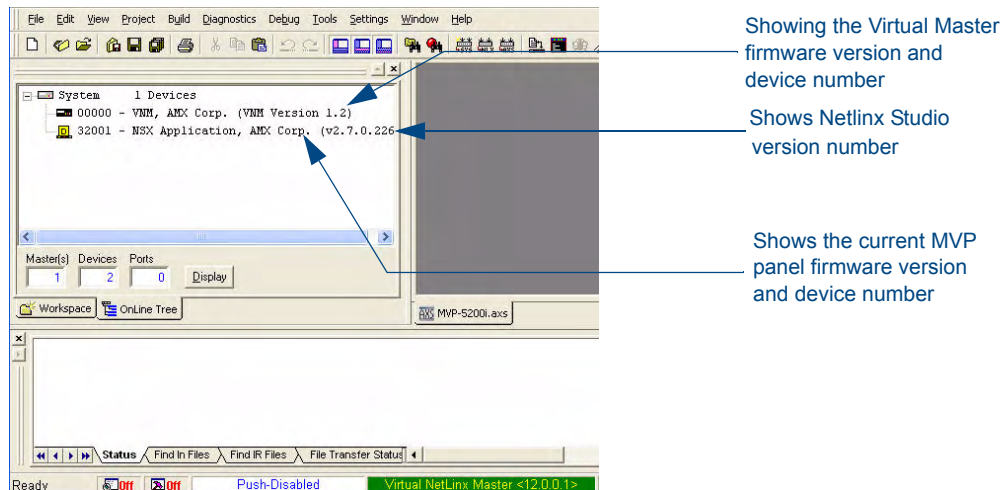

FIG. 83 NetLinX Workspace window (showing panel connection via a Virtual NetLinX Master)
3. After the *Communication Verification* dialog window verifies active communication between the Virtual Master and the panel, click the **OnLine Tree** tab in the Workspace window (FIG. 83) to view the devices on the Virtual System. *The default System value is 1.*
4. Right-click on the System entry (FIG. 83) and select **Refresh System** to re-populate the list. Verify the panel appears in the **OnLine Tree** tab of the Workspace window.